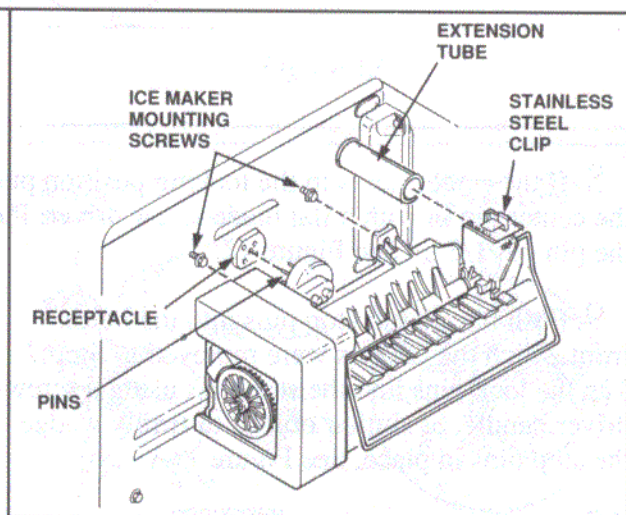

Figure 8
- e. Loosen the top two screws (silver colored) and remove the bottom screw. Save this screw for future use. Leave the heads sticking out far enough to allow the ice maker hangers to slip over the heads, approximately 3/8 in. See Figure 8.
- f. Hold the ice maker in position in the freezer and plug it into the electrical receptacle on the freezer back wall. Note the spacing of the four pins on the plug; the pins must line up exactly with the holes in the receptacle. See Figure 8.
- g. Slip the ice maker hangers over the two mounting screws, while working the water tube extension under the stainless steel clip on the water cup. See Figure 8. **Make sure that the extension tube is not kinked and does not become dislodged from the water tube. For best results, the tube extension should extend approximately 1/2 inch into the water cup.**